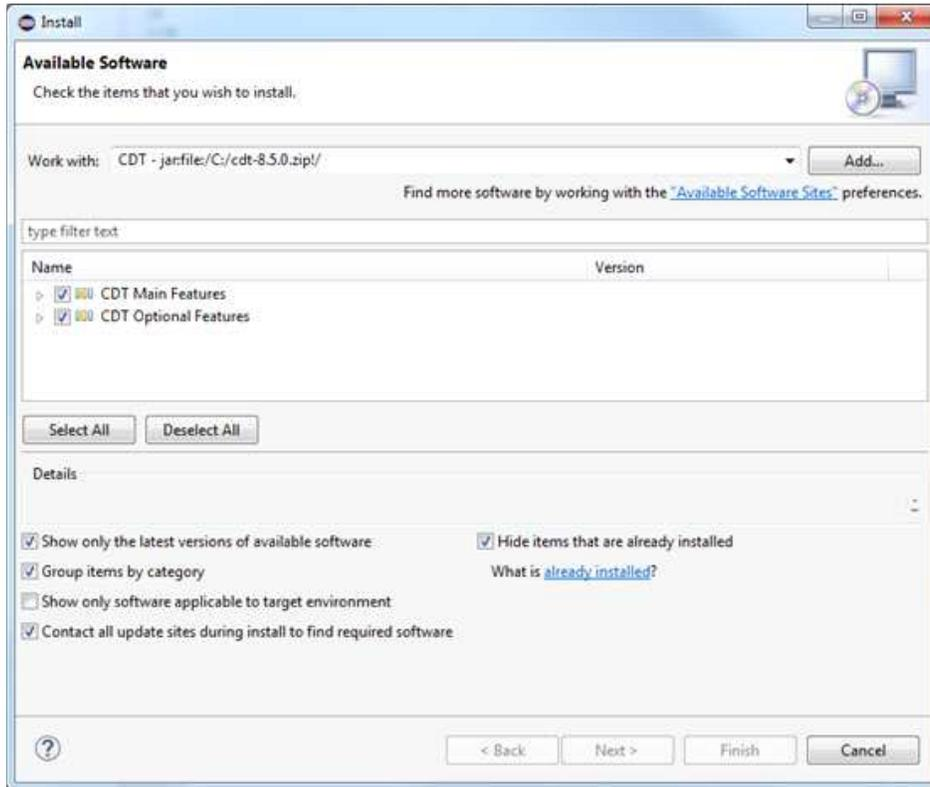

Figure 2. Installing CDT
4. Select both 'CDT Main Features' and 'CDT Optional Features' to install (see Figure 2).